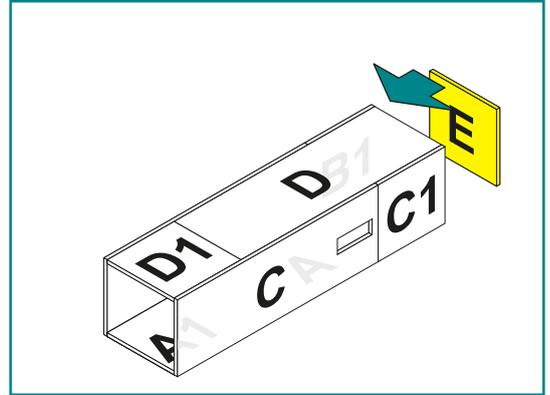

figure 9
2.2.8 Mount panel E to panels B1 and C1. (figure 9)